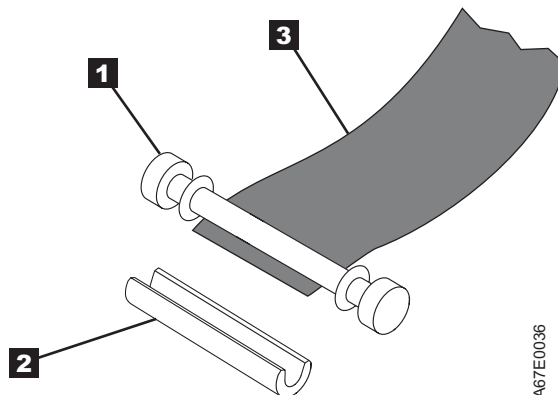

Figure 6-14. Removing the C-clip from the leader pin. Use your fingers to push the C-clip from the leader pin.
5. On the leader pin (**1** in Figure 6-14), locate the open side of the C-clip **2** . The C-clip is a small black part that secures the tape **3** to the pin.